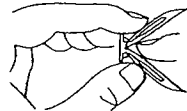

Figure 1
2. Fold wall anchor as shown in Figure 1.